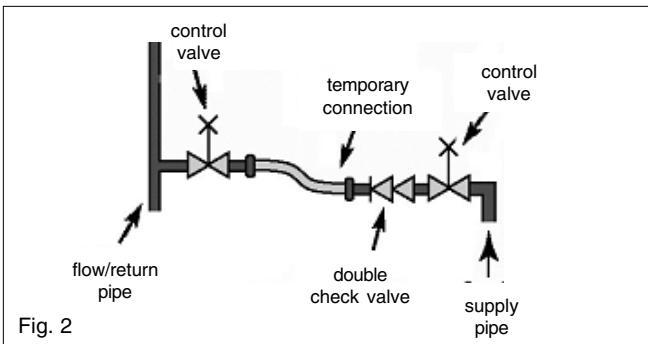

Fig. 2
**3.1 HOW TO TOP-UP THE SYSTEM PRESSURE (fig. 2 & 3)**
- Locate the filling valve connections (usually beneath the boiler, see fig. 2).